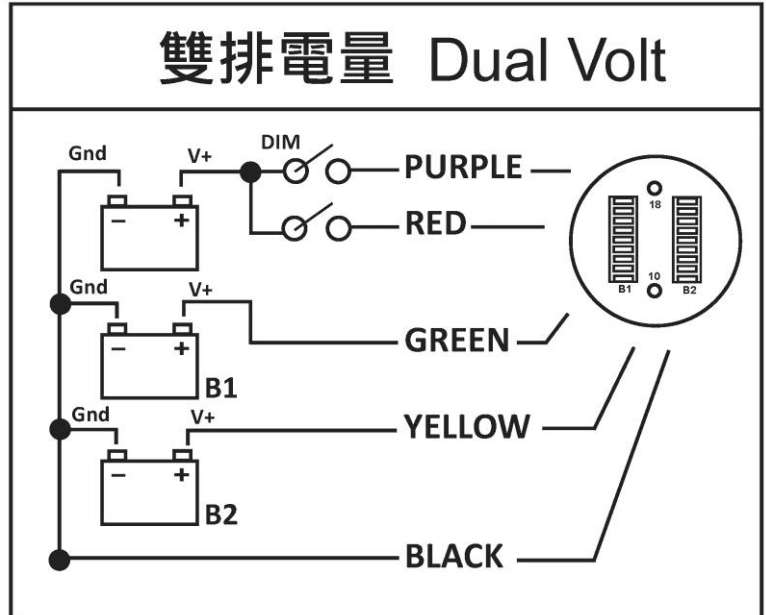

Figure 2.
1. After mounting the gauge, please see the enclosed installation diagram (**Figure 2.**).